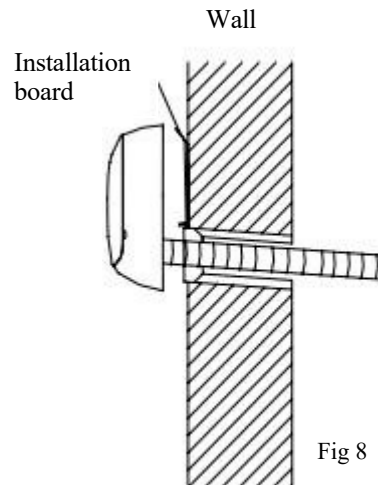

Fig 8
- Mount the indoor unit on the two hooks at the upper part of installation board.(Refer to Fig.8)